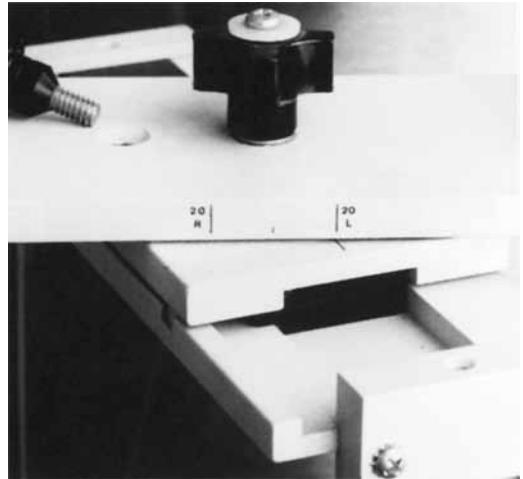

Figure 48
**5. TMJ View.** To set up a patient for a view of the TMJ, follow the procedures outlined for a lateral view except rotate the ear post assembly 20 degrees (Figure 47) as indicated on the support bar (Figure 48) for the right or left TMJ.